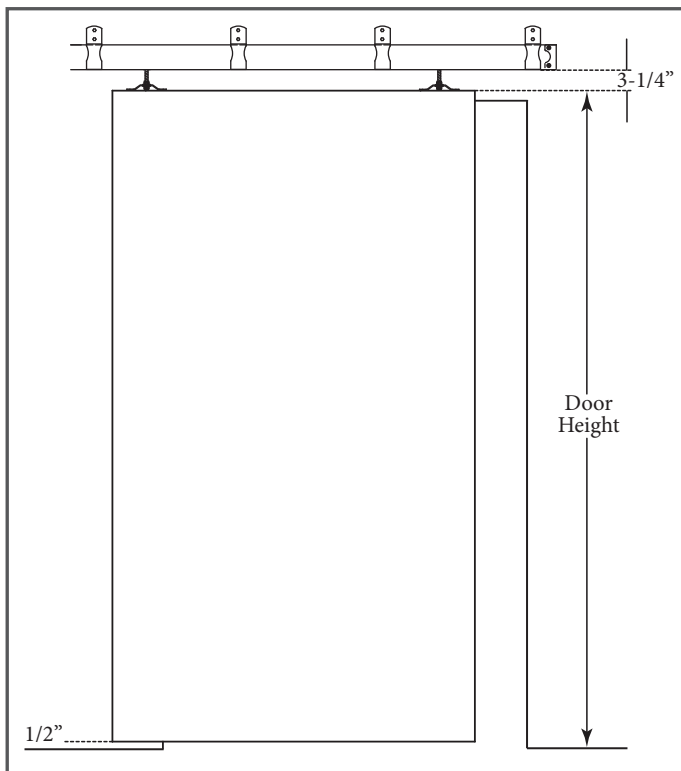

Figure 1
1. To determine where the track should be installed, first measure the height of the door, then add 3-3/4" to the door length. 1/2" will be for the clearance between the bottom edge of the door and the floor. 3-1/4" will be from the top of the door to the bottom of the track. (Figure 1).